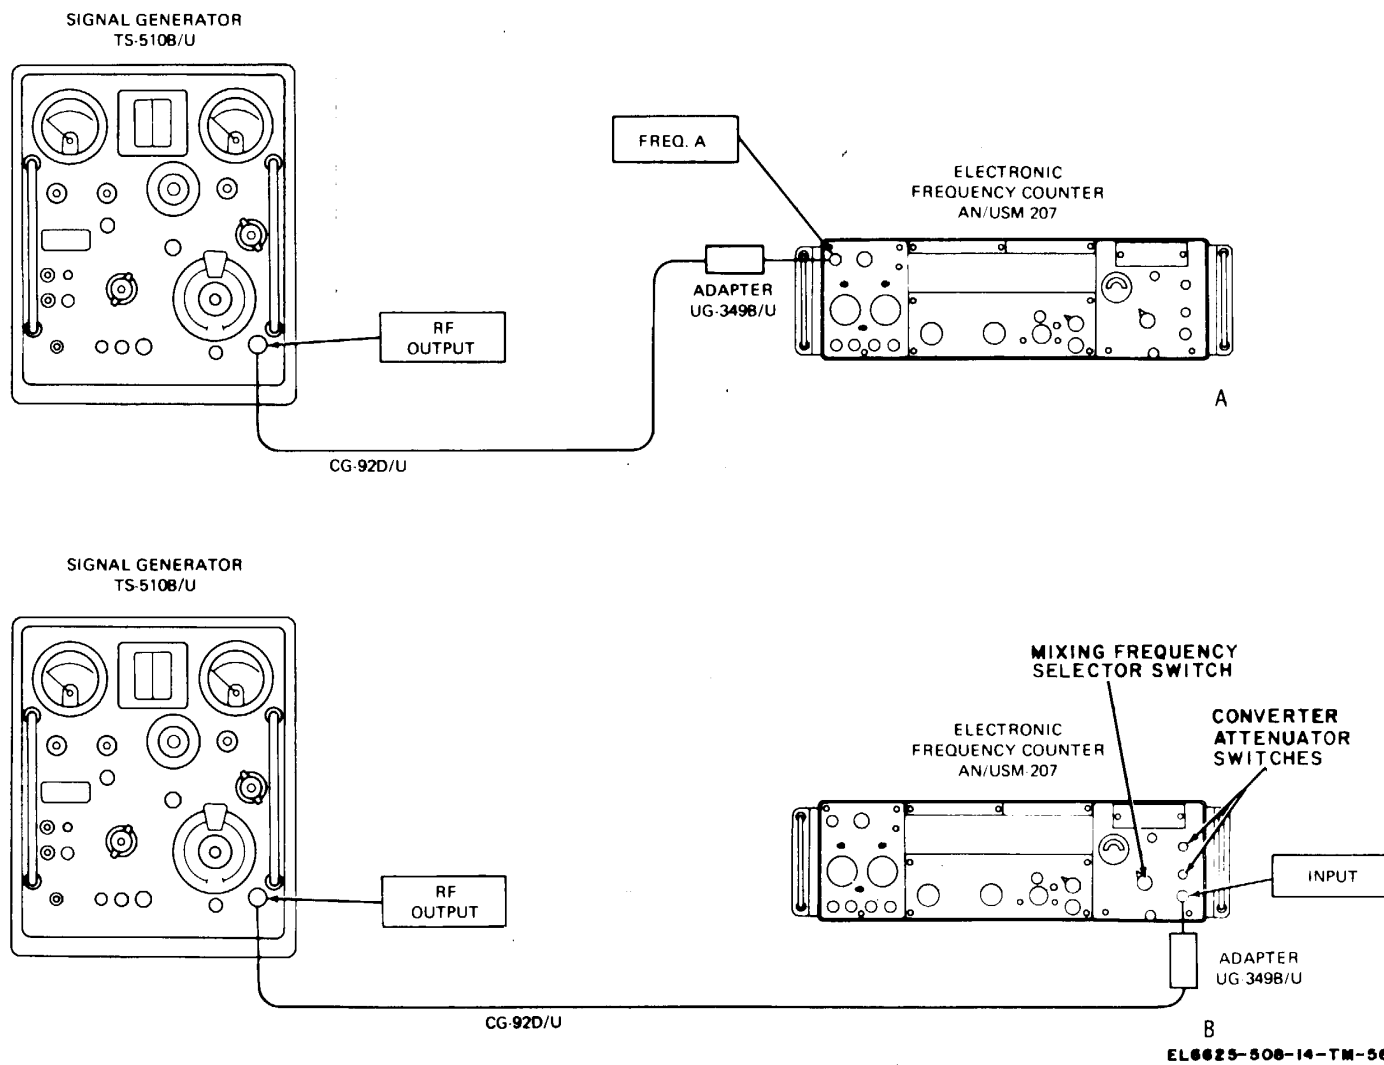

Figure 6-27. Frequency dial calibration and rf oscillator drift test connections.
- (1) Electronic Frequency Counter AN/USM-207
(2) CoaxialCableCG-92DIU
(3) AdapterUG-349/BU
b. Test Connections and Conditions. Connect the equipment as shown in A, figure 6-27.